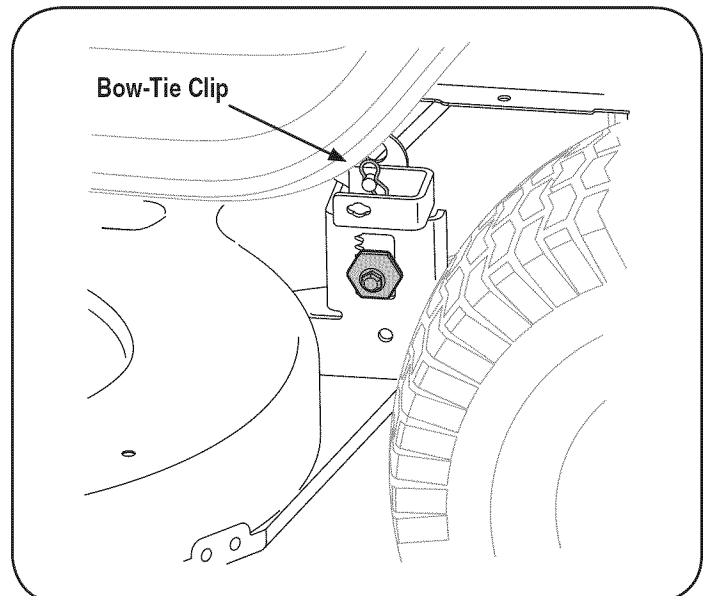

Figure 16
5. Looking at the cutting deck from the left side of the tractor, locate the bow-tie pin that secures the deck support rod on the rear left side of the deck. See Figure 16. Remove the bow-tie pin that secures the deck support rod, and carefully remove the deck support from the deck lift arm.